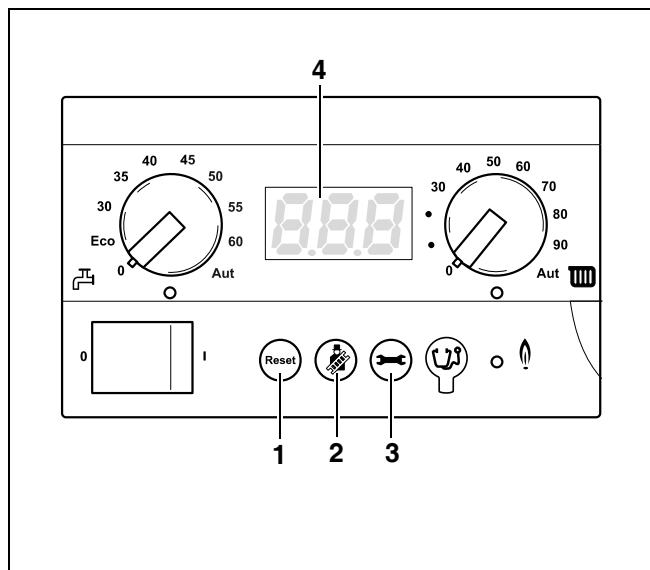

fig. 19 BC10 basic controller
You can navigate through the menu structure of the central boiler on the BC10 using the "Reset" button, the "Chimney sweep" button, the "Service button" (fig. 19, **items 1, 2 and 3**) and the display (fig. 19, **item 4**) in accordance with the menus in tables 5, 6 and 7.